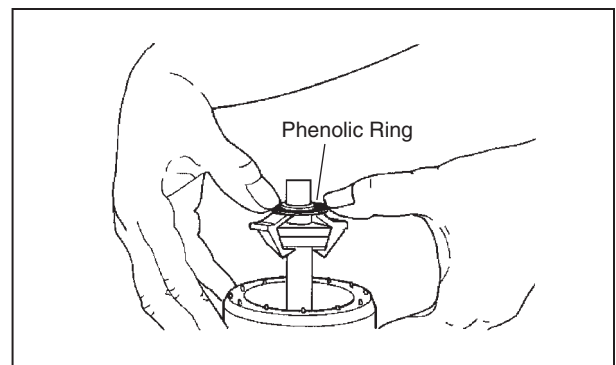

Figure 4.5
5. Turn upper end bell/rotor shaft assembly upside down. Check centrifugal switch for binding by applying thumb pressure to black ring (see Figure 4.5). If switch does not move up and down smoothly: